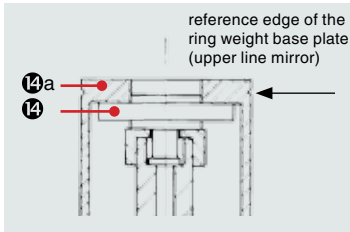
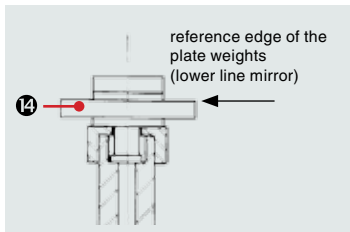

Fig. 3a: reference edge of the ring weights
Fig. 3b: reference edge of the plate weights
- Readjust the pressure by turning the spindle pump until the upper edge of the basic load 14 matches the lower line on the mirror (⇒ Figure 3b) or until the marking on the ring weight base plate 14a matches the upper line on the mirror (⇒ Figure 3a).